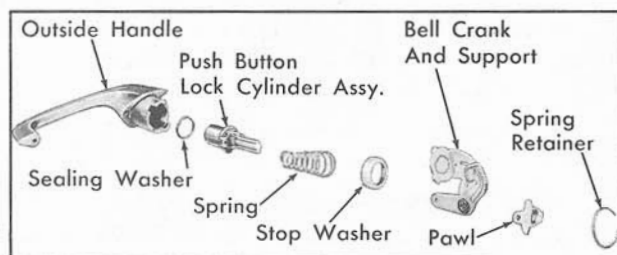

Fig. 17-20 Front Door Outside Handle Disassembled
2. While maintaining pressure to hold component parts within handle, use a suitable tool and remove spring retainer, then remove parts as shown in Fig. 17-20.